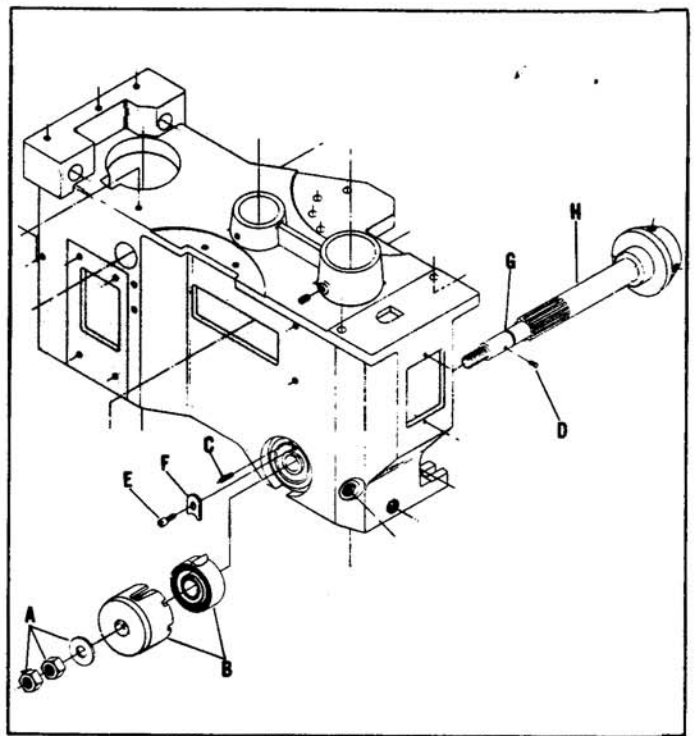

Fig. 8
1. Remove the two nuts and washer (A) Fig. 8 .
2. Carefully pull out the return spring and housing (B) Fig. 8 , about 1/4" until roll pin (C) disengages with the groove in the return spring housing and carefully rotate the return spring housing to release tension on the return spring or refer to the instructions on page 5 under ADJUSTING SPINDLE RETURN SPRING to release spring tension.
3. Disengage the return spring from the screw (D) Fig. 8 , in the pinion shaft, and remove the return spring and housing from the pinion shaft.
4. Loosen screw (E) Fig. 8 , and move retainer (F) up out of the groove (G) in the pinion shaft.
5. Remove screw (D) Fig. 8 , from pinion shaft and while holding the quill with your left hand, remove the pinion shaft (H) by pulling it straight out. The quill assembly can then be easily removed from the head casting.